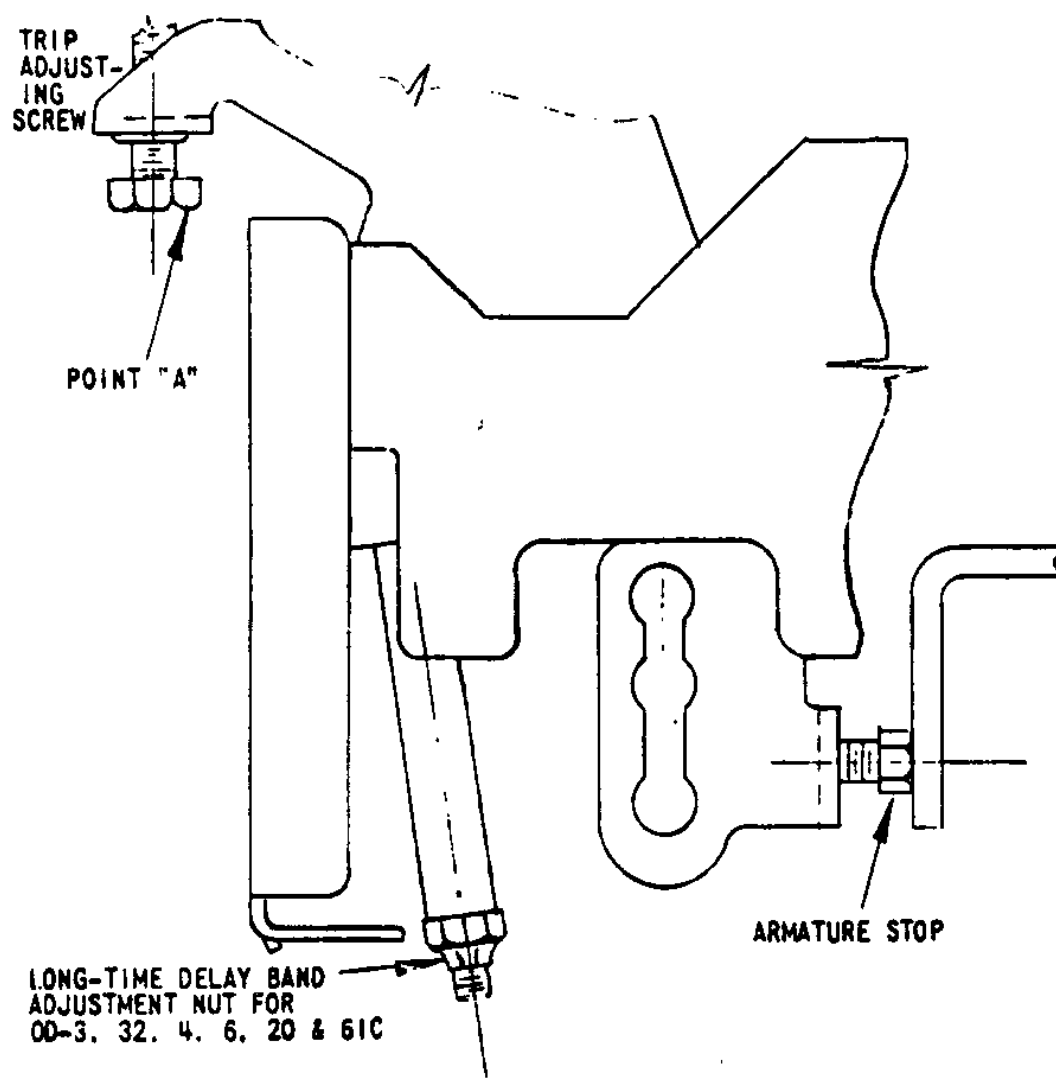

FIG. 2
13. When the breaker is not energized or the current is below the pickup value, the armatures of overcurrent device (see Fig. 2 & 5) should be seated on the stops. After an armature has actuated to trip the breaker, the reset time (time for the armature to seat on the stop) is 4 seconds maximum for the long-time armature and one second maximum for the short-time or instantaneous armatures.
- If the breaker does not trip with the test current applied for several minutes, then, with current removed, push up the long-time armature at Point "A", Figures 2 and 5, with a rod to trip the breaker. Allow time for the dashpot to time out. If the breaker cannot be tripped, then the trip screw should be checked for adjustment. (See circuit breaker instruction bulletin for adjustments.)
The short-time pickup should be set at the minimum point, and, on OD's 5, 9, and 500, the long-time armature (wide armature) should be blocked or the instantaneous should be set at the maximum calibration point. The current through the breaker should be set at  $1\frac{1}{2}$  times the pickup point for the OD-4 through 82 and  $1\frac{1}{2}$  times the pickup point times the calibration multiplier for the OD-400 and 500. In order to set the current through the breaker at 150% pickup, it is necessary to keep the OD armatures from moving since this movement may result in the breaker tripping and also as the long-time moves toward the magnet, the current through the breaker will decrease. On OD-3 through OD-82, this movement can be stopped by holding down the armatures at Point "A" (Figure 2) by using a wire looped around the screw. OD-300 through OD-800 armatures can be stopped from moving by pushing up at Point "B" (Figure 5) with an appropriate stick. Once the current is established, the control handle should be moved. The short-time delay is measured from the inception of current until the breaker trips. The delay time limits are listed in Table II. See Figures 4 and 6 to determine at which short-time delay band the overcurrent device is set.
1. OD's 3, 4, 5, 6, 20, 32, 61 (See Figures 2 and 3)